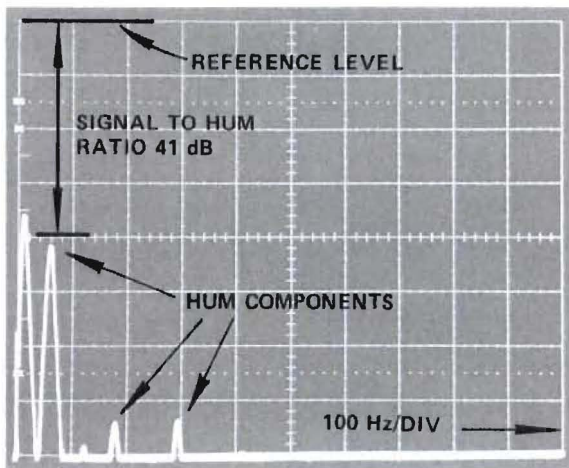

Figure 37 Example of S/N and Hum Measurements
5. The difference in amplitude (Figure 37) between the signal reference level and the noise floor, less a correction from the measured bandwidth (3 kHz) to the desired bandwidth (15 kHz), is the signal to noise ratio. The correction factor to be subtracted is 7 dB. Example: S/N equals V_S minus V_N minus Correction Factor; S/N equals 0 dB - 72 dB - (-7 dB) = -65 dB (S/N).
- 2. Signal to hum ratio can be determined by measuring the amplitude difference between the Signal Reference Level (step 3) and any 60 or 120 Hz hum components. An example is shown in Figure 37.